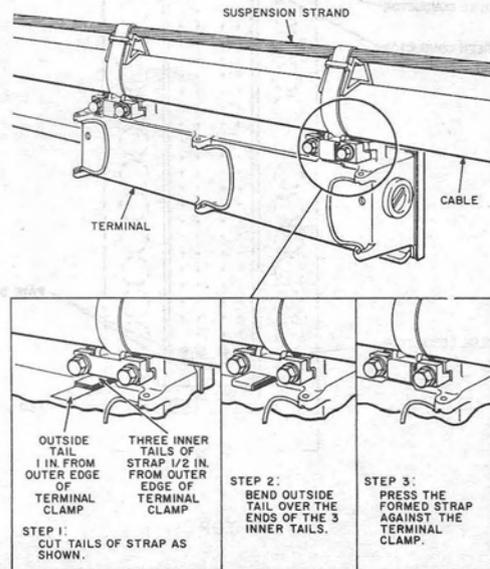

Fig. 40—Superseded N-Type Cable Terminals
6.02 Earlier 10- and 16-pair N-type cable terminals were suspended from strand with B lashed cable supports as shown in Fig. 40.